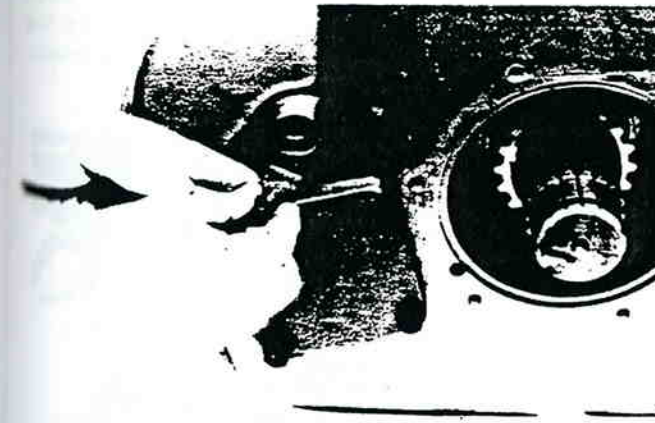

Figure 13-36. Removing Lock Plate.
4. Remove capscrew at rear of transmission and remove the lock plate from slot in the idler shaft (figure 13-36).